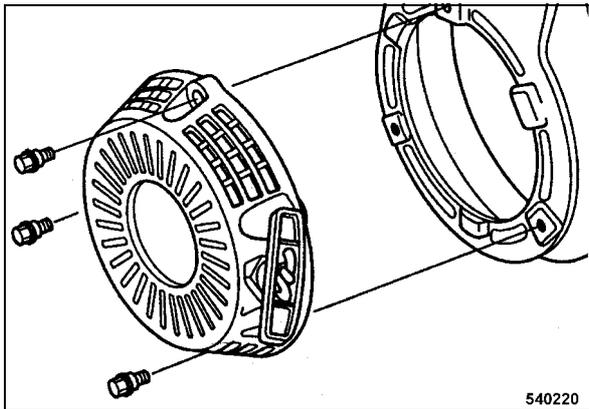

Fig. 48
- Remove the recoil starter (Fig. 48).